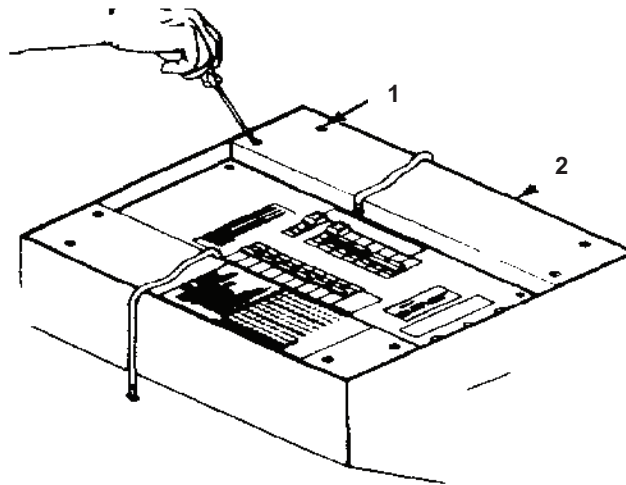

Figure 1. DISE Circuit Breaker Panel Board (1 of 2)
1. Remove screws (Figure 1, Item 1) securing inspection cover (Figure 1, Item 2) to distribution center. Remove inspection cover (2).
2. Remove screws (Figure 1, Item 3) securing panel to bus bar assembly.